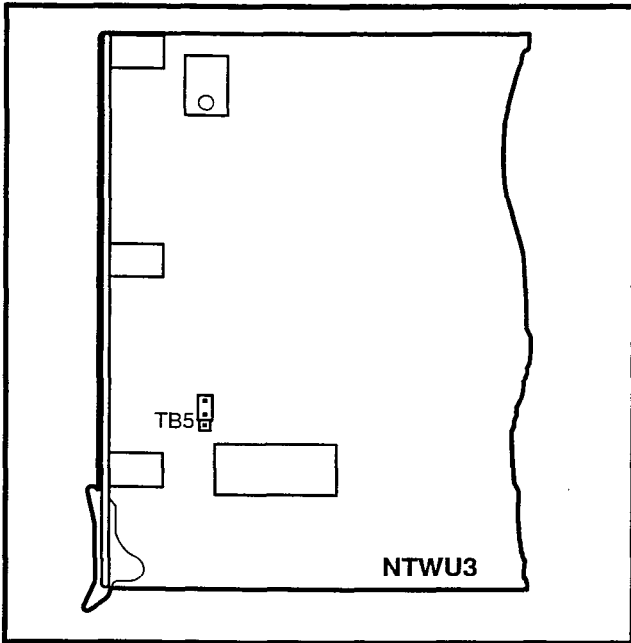

FIGURE 4-14—NTWU STRAPPING
3.21 The NTWU has one strap that must be verified before installation (Figure 4-14). Install the NTWU in the TWU slot of the basic cabinet. Ensure that the strap is as follows: